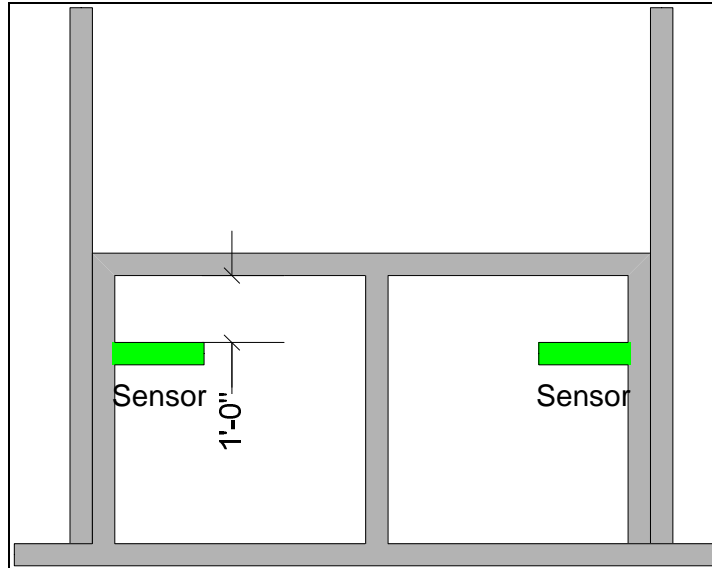

Figure 3 - Optimal Sensor Mounting Location
3. Place the plywood flush against the inside face of the glass faced gypsum panel exterior sheathing. Optimal mounting location and orientation for a window is shown in Figure 3 although variation in location due to space constraints is common.